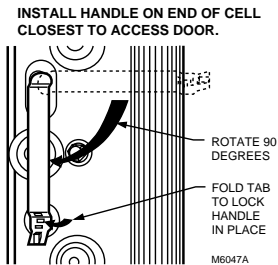

Fig. 8. Install handle on end of cell closest to access door.
2. Hold the handle sideways and insert the solid tab on the back of the handle into the slot in the cell. Turn the handle 90 degrees clockwise to align the divided tab with the square hole. See Fig. 8.